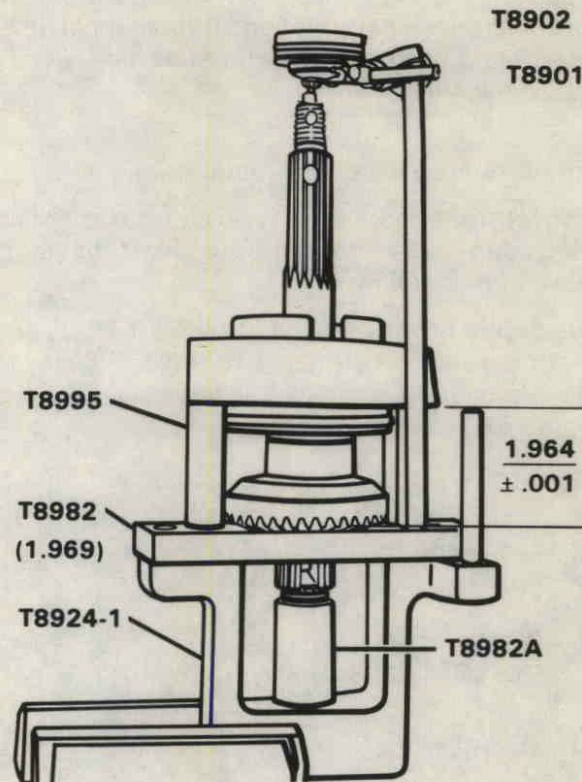

Figure 64. Checking Propeller Shaft.
D. Clamp checking guage (Special Tool No. T 8924-1) in vise. Install Special Tool No. T 8982 on checking gauge and secure with two hex socket head screws. Place Special Tool No. T 8982A (barrel) in bore at bottom of T 8924-1 checking gauge. Set propeller shaft with components in place on shimming fixture. Figure 64.
to the mounting surface of the bearing cage. This distance must be $1.964 \pm .001$ ". Figure 64.